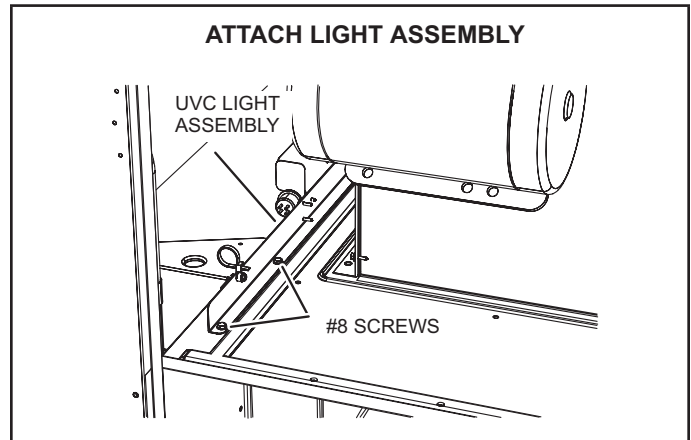

FIGURE 48
- 8 - Carefully place the UVC assembly on the blower deck. Line up the mounting holes on the UVC assembly with the mounting holes on the blower deck. See FIGURE 48. Use the #10 screws provided to attach the UVC assembly in place.